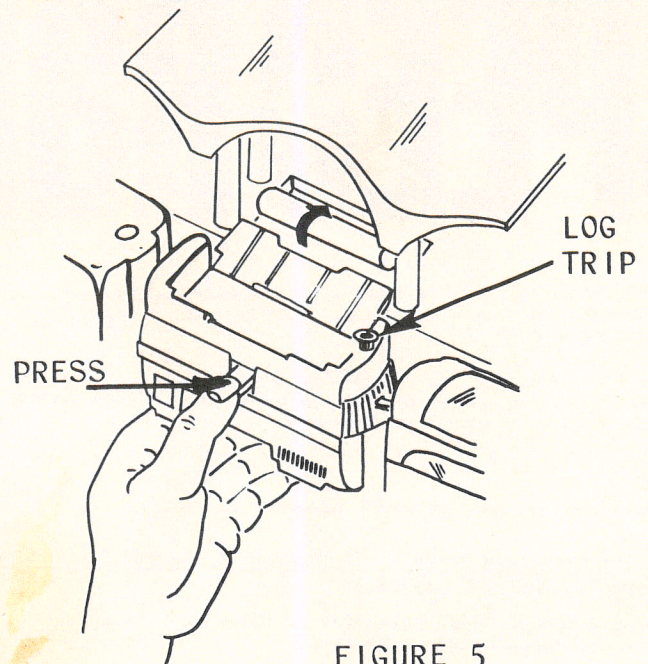
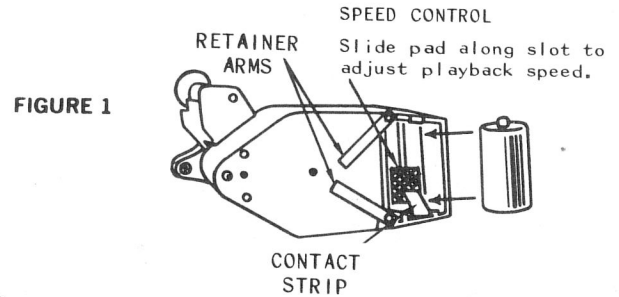

FIGURE 5
FIGURE 1
To use the automatic log return feature, the station must be installed at a point where tracks one level apart cross each other at right angles as shown in Figure 1.
To avoid possible damage to your Speedrail set, the gondola car should always be coupled so the log trip (Fig. 5) is toward the back end of the train. When the log is in loading position in the freight tunnel, the gondola car should always enter the tunnel so the end with the log trip goes in last, and only from the direction shown by the arrow in Figure 1.
2. With log in car, press lever to drop side of car as shown in Fig. 5. Hold bottom of car with your hand as shown to prevent car from tipping over. Log will roll out of car and position itself in loading position in Freight Station.
If yours is a Talking Passenger Station, one fresh "C" size battery is required in the battery case on the underside of the station. Swing the retainer arms (Fig. 1) out of the way and insert battery in direction shown. Swing retainer arms back over battery. Test talking mechanism by pressing button on top of station and then releasing it. Talking will not start until you remove finger from button.
**NOTE:** If talking unit does not operate, bend contact strip (Fig. 1) slightly toward the opposite end of battery case to insure good contact with battery.